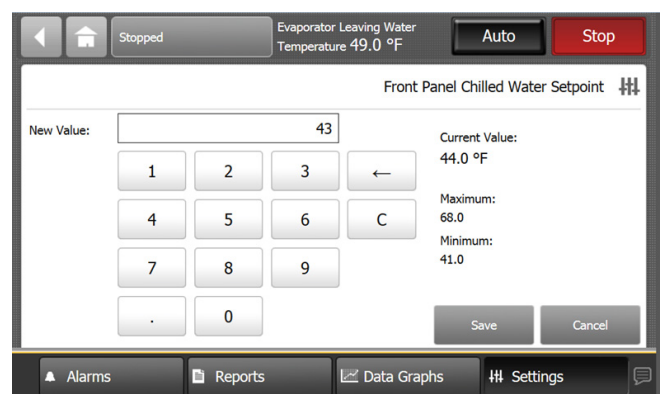

Figure 42. Changed chilled water setpoint screen
- b. For screens with numerical keypads (Figure 42), touch the appropriate numbers to change the current value. The new value appears above the keypad.